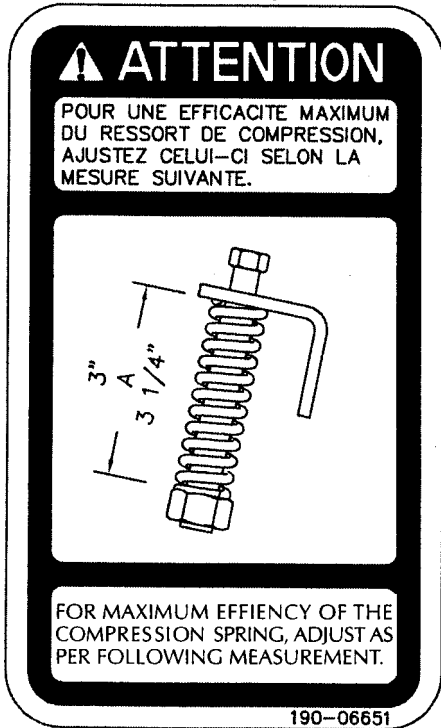

Figure 16
- 3) Check chain take-up adjustment. The spring maintaining the tension must be compressed to a length between 3" and 3 1/4" (Fig. 16).